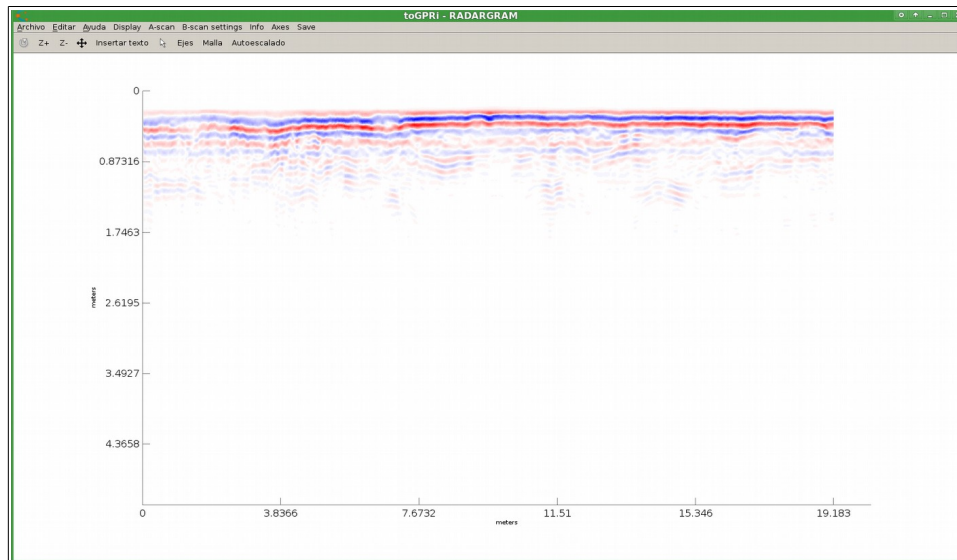

Figure 5. First display.
*toGPRi* will draw the radargram figure in a new *RADARGRAM* display (figure 5).
**Height and weight** sets the axes in meters (like in figure 5). We have the possibility of to change the velocity if we need it.